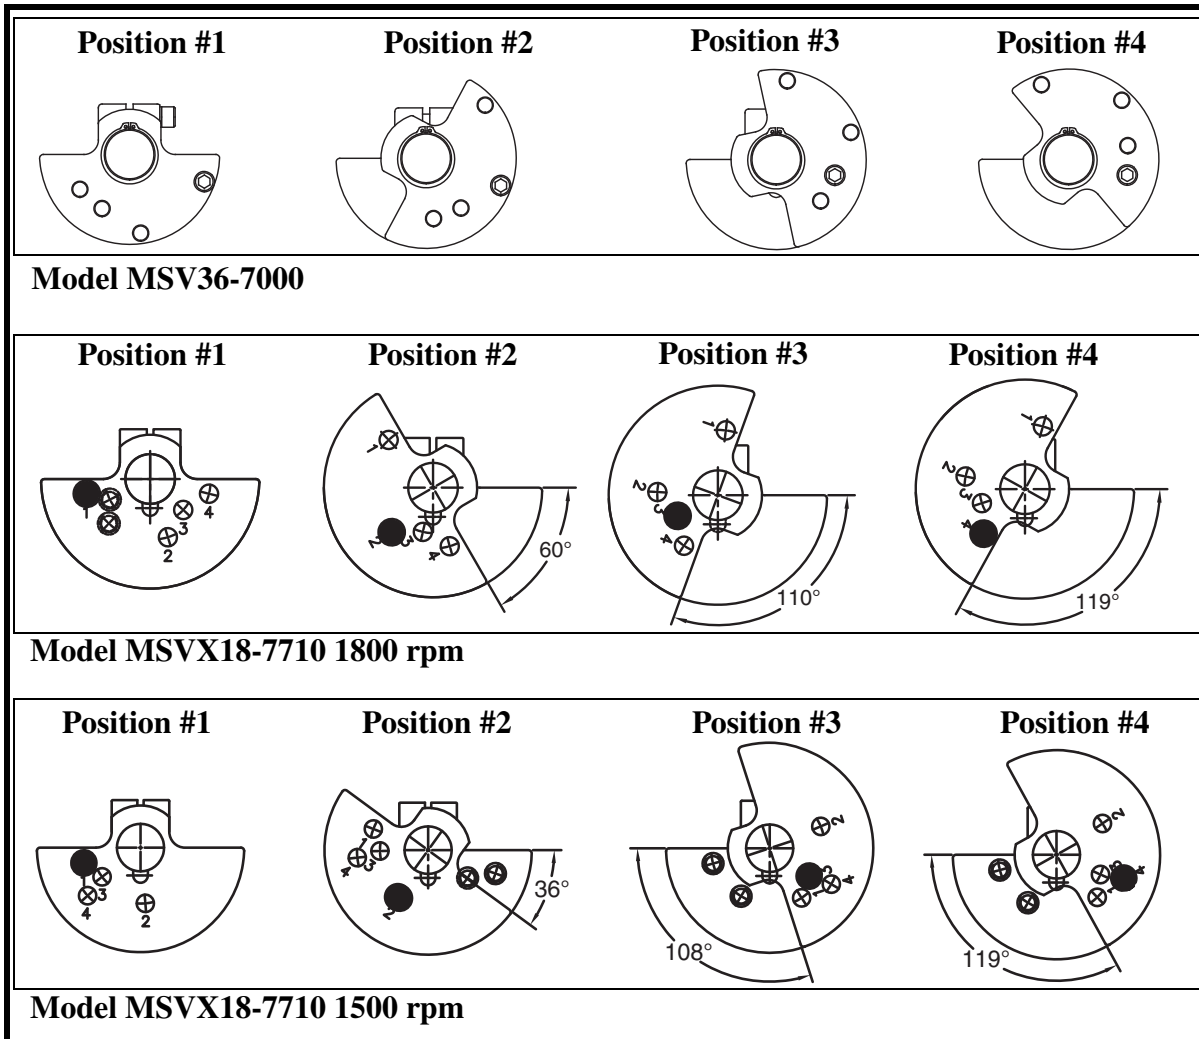

Figure 5. Vibrator Weight Settings
3. Using a 1/2-in. ratchet, extension, and either a 10-mm or 14-mm socket, remove the socket-head screw as shown. See Figure 5.
4. Rotate adjustable weight to desired position number (see Figure 5) and secure in position with socket-head screw. Torque 14-mm socket-head screw to 137 ft-lb. Torque 10-mm socket-head screw to 28 ft-lb.